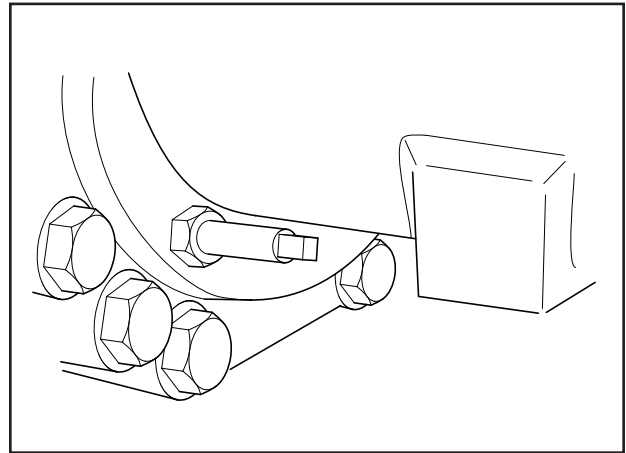

FIGURE 3-16. BRAKE RELEASE SCREW
5. On the sides of the rear end, locate the screw with a square head (see Figure 3-16).